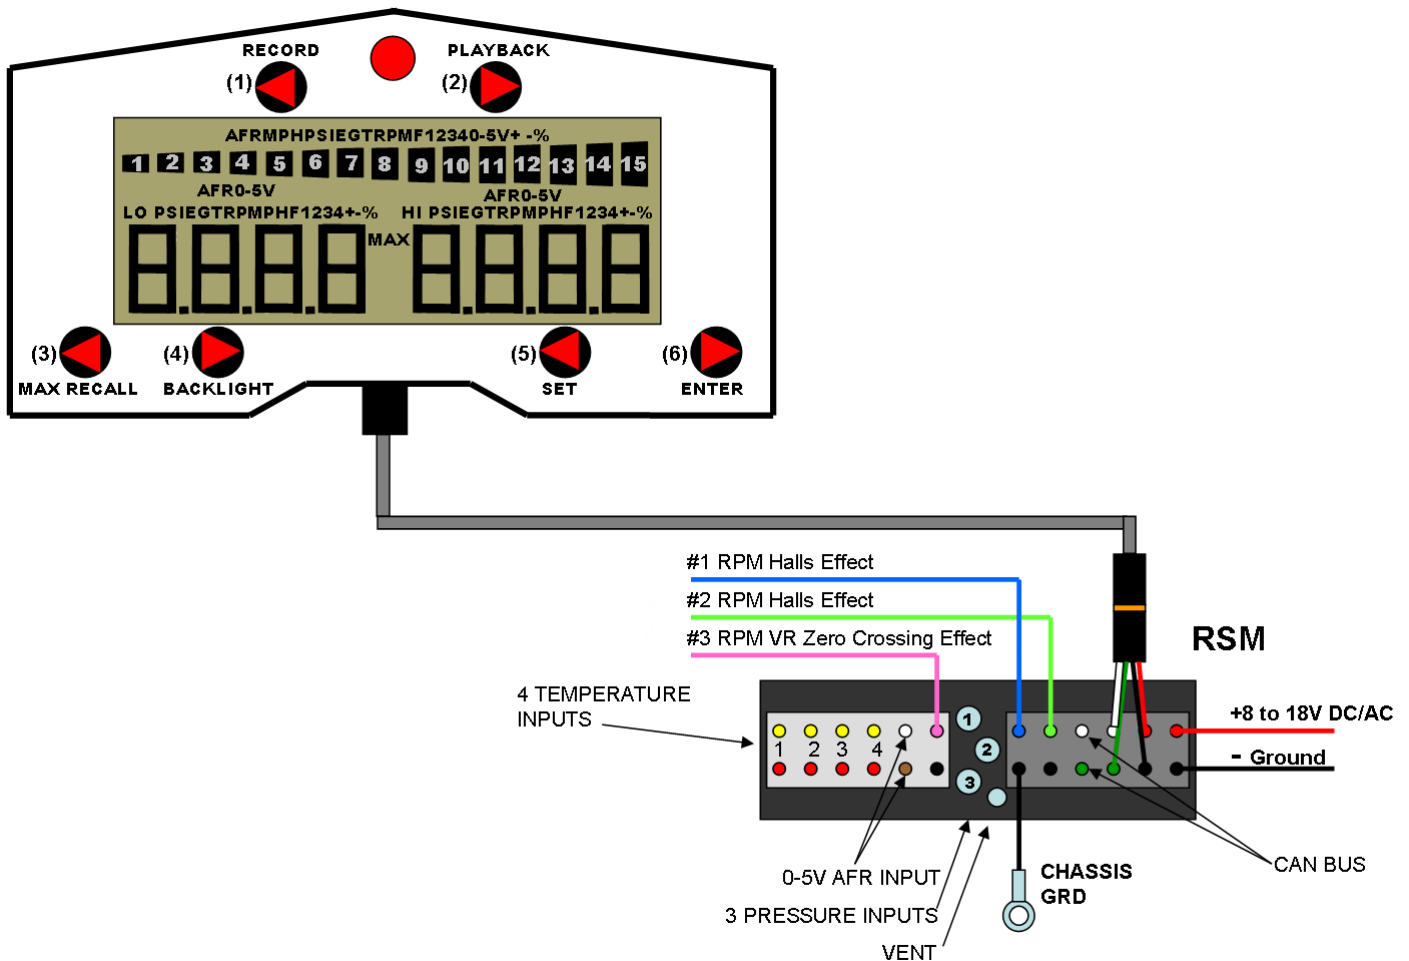

Figure 1: RSM Pin-out And Wiring
Figure 1 below provides the RSM sensor connections, pin locations and basic connectivity.
2. The CPC/Redline display module is preprogrammed to support an AEM Uego AFR wide band sensor. The AEM wiring harness must be modified by installing special wire terminal connectors by CPC in order for the wires to be plugged into the Remote Sensor Module (RSM) connector. There are three (3) wires coming out of the Uego wiring harness; gray which is not used, white and brown. The white wire is plugged into the top position of the 0 to 5 volt input port and the brown wire in the bottom. The position of the white and brown wires must be plugged into the RSM connector as shown in Figure 1 RSM Pin-out And Wiring on page 3. The CPC/Redline gauge use the 0 to 5 volt input from the AEM wiring harness to measure and record the correct AFR reading which will be displayed on the CPC/Redline gauge using the **AFR 2 channel**.
Reference Figure 1 RSM Pin-out And Wiring on page 3 during installation.